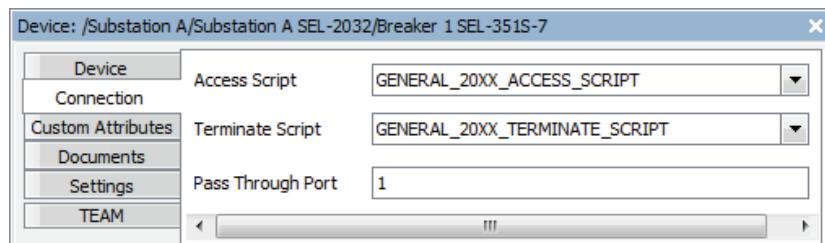

Figure 36 Relay Connection Window
- Step 7. Select the **Connection** tab in the **SEL-351S-7** window shown in *Figure 36* and match the options to the following listing.